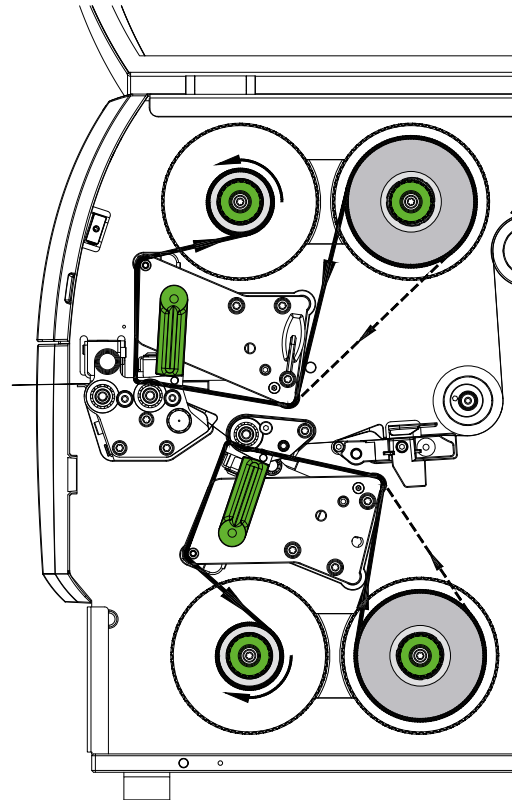

Figure 18 Transfer ribbon feed path
2. Turn the lever (6) counterclockwise to lift the upper printhead.
3. Slide a transfer ribbon roll (1) onto the ribbon supply hub (3) so that the color coating of the ribbon faces downward when being unwound.
4. Position the ribbon roll (1) in such a way that both ends of the roll show identical scale values.
5. Hold transfer ribbon roll (1) firmly and turn knob (3) on ribbon supply hub counterclockwise until the transfer ribbon roll is secured.
6. Slide suitable transfer ribbon core (4) onto the transfer ribbon take-up hub (5). Position and secure it in the same way like the supply roll.
7. Guide transfer ribbon through the print unit as shown in Figure 18.
8. Secure starting end of transfer ribbon to middle of the transfer ribbon core (4) with adhesive tape. Ensure counterclockwise rotation direction of the transfer ribbon take-up hub.
9. Turn transfer ribbon take-up hub (5) counterclockwise to smooth out the feed path of the transfer ribbon.
10. Turn lever (6) clockwise to lock the printhead.
11. Open the flap (8) and load transfer ribbon to the lower print unit (7) in a similar way. All previous statements of direction apply contrariwise excepting the turning of the knobs.